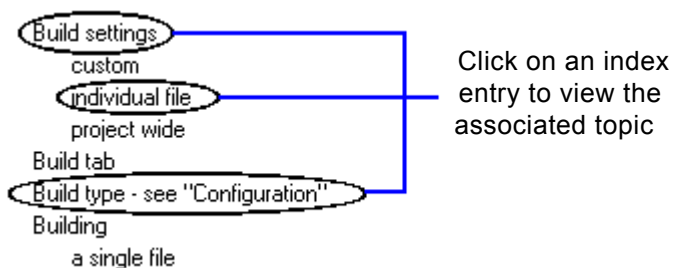

Figure 1-5. Index Entries on the Index Page
- An index entry on the Index page (Figure 1-5)